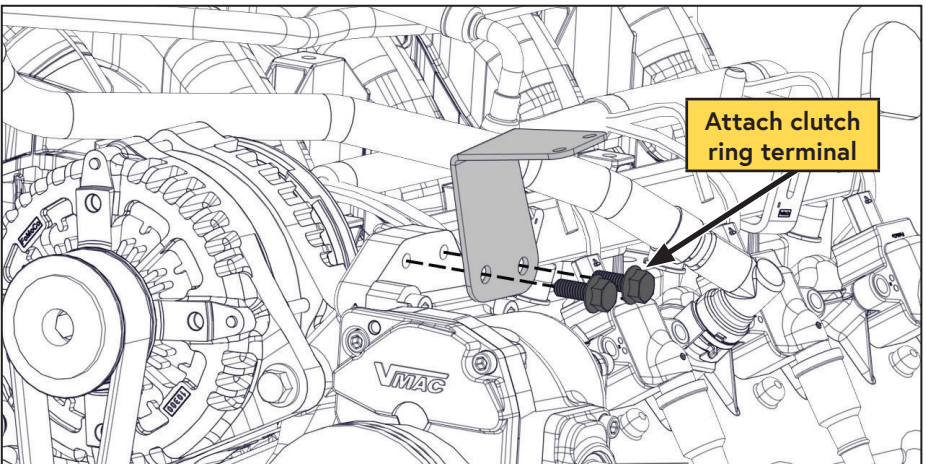

Figure 20 — Install air filter bracket
- Install the air filter bracket onto the compressor bracket (Figure 20).